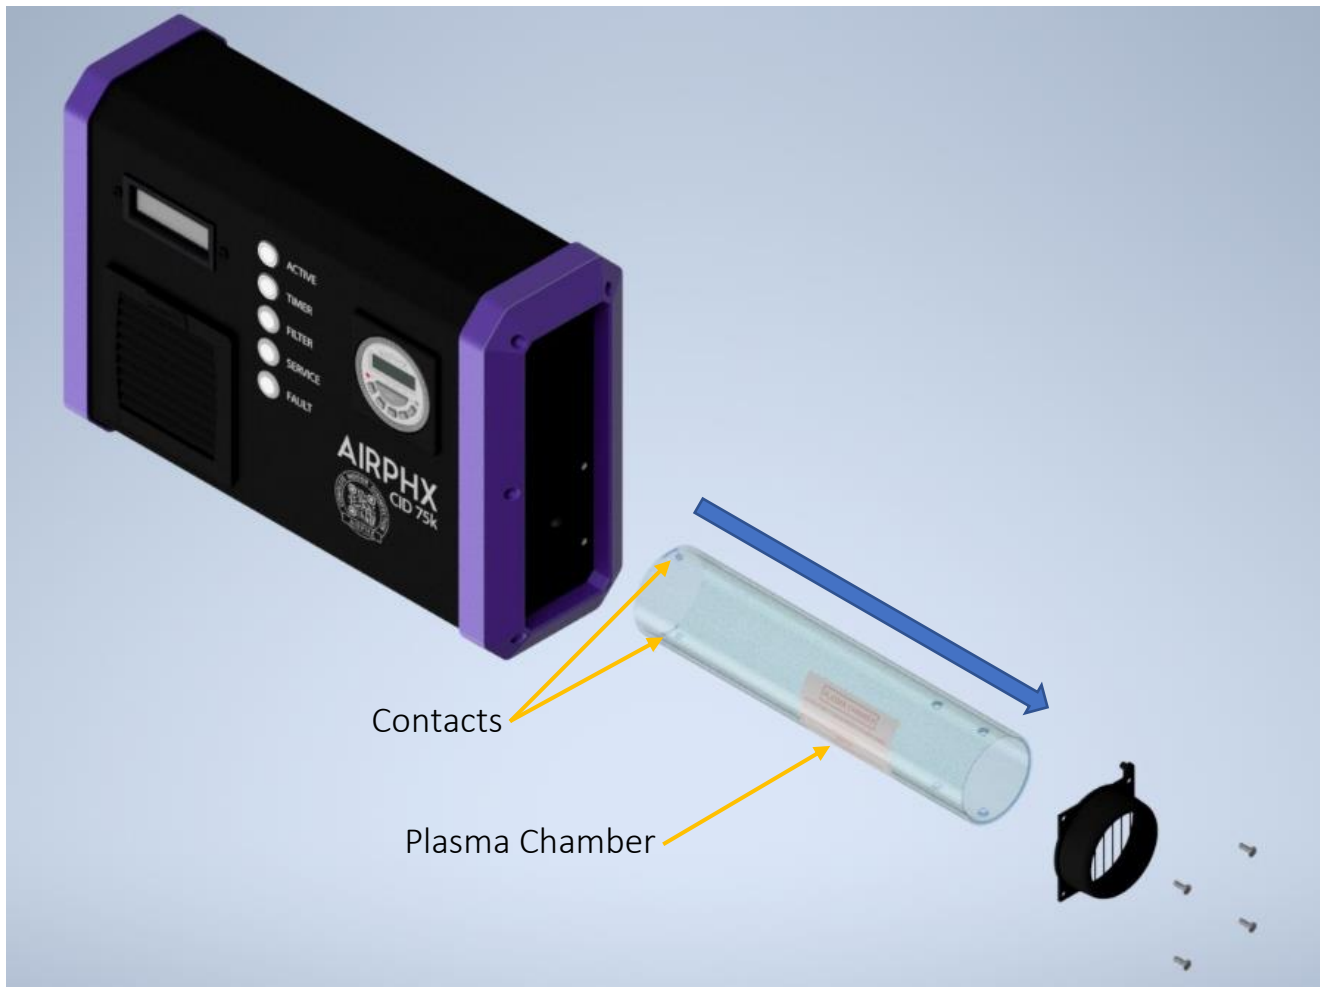

Fig 1E.
6. With the new plasma chamber in hand, align the contacts on the plasma chamber with the two notches in the enclosure, making certain that the label on the plasma chamber is facing towards you as shown in Fig 1E.